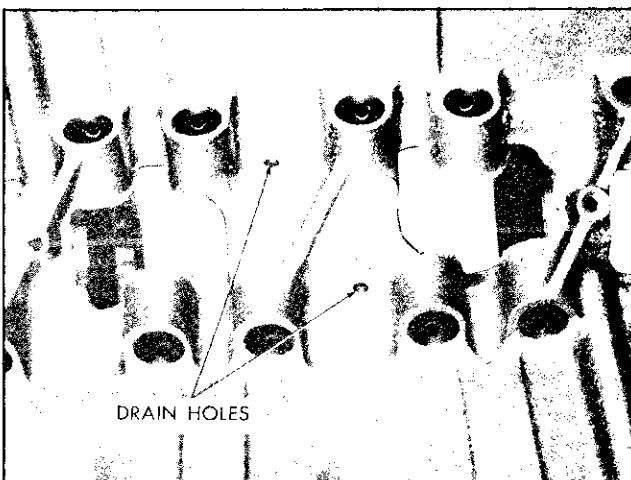

Fig. 6-126 Drain Holes in Lifter Gallery
g. Use wire to check two drain holes in lifter gallery (Fig. 6-126).